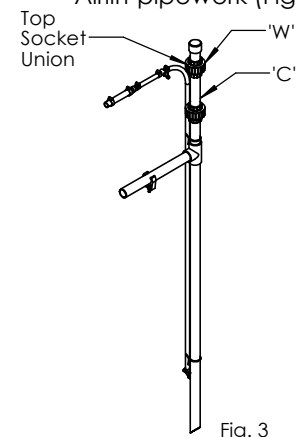

Fig. 3
- Remove the Sludge return pipework from the tank (Fig. 3).